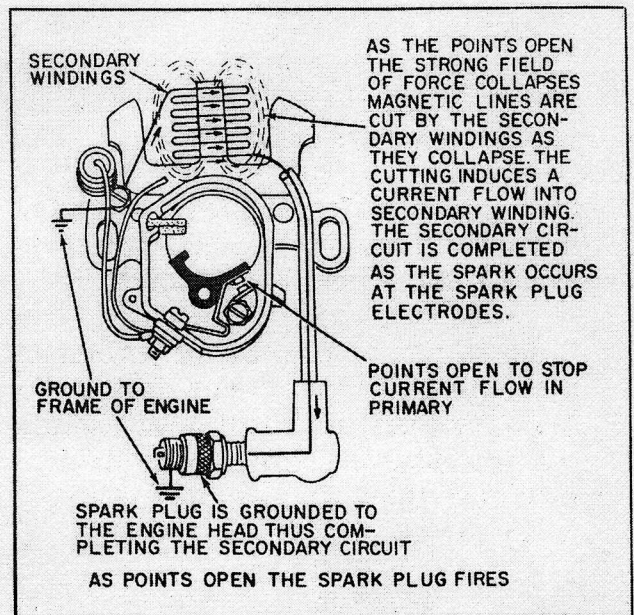

Figure 22
5. See Figure 22 - At the point of maximum magnetic strength within the primary circuit, the points OPEN, rapidly collapsing the magnetic field.